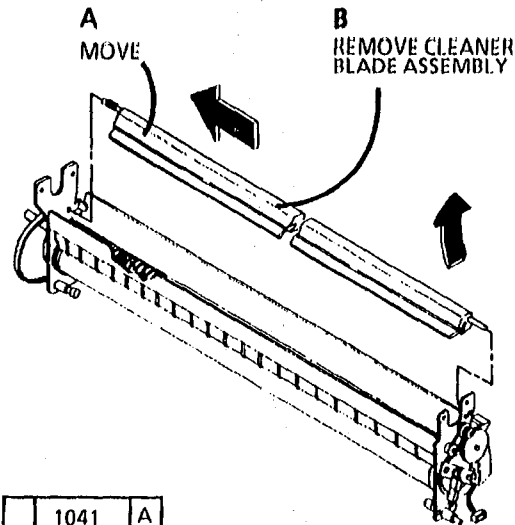

Figure 2. Remove the Cleaner Blade Assembly
3. (Figure 2): Remove the cleaner blade assembly.